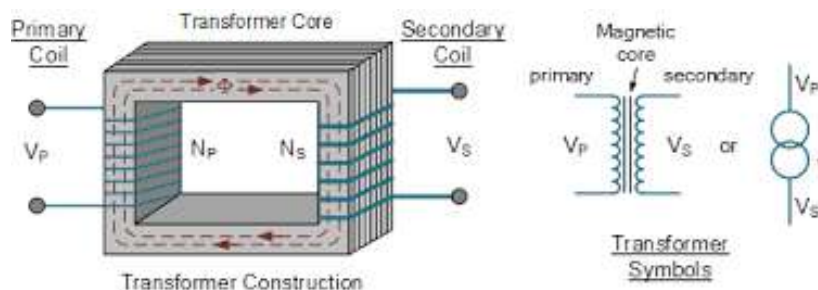

Figure.4.1. Transformer construction.
4.1.1. Working Principle. The Transformer works on the principle of mutual induction between two circuits linked by a common magnetic flux. It consists of two inductive coils which is electrically separated but magnetically linked through a path of low reluctance as shown in the figure 4.1.